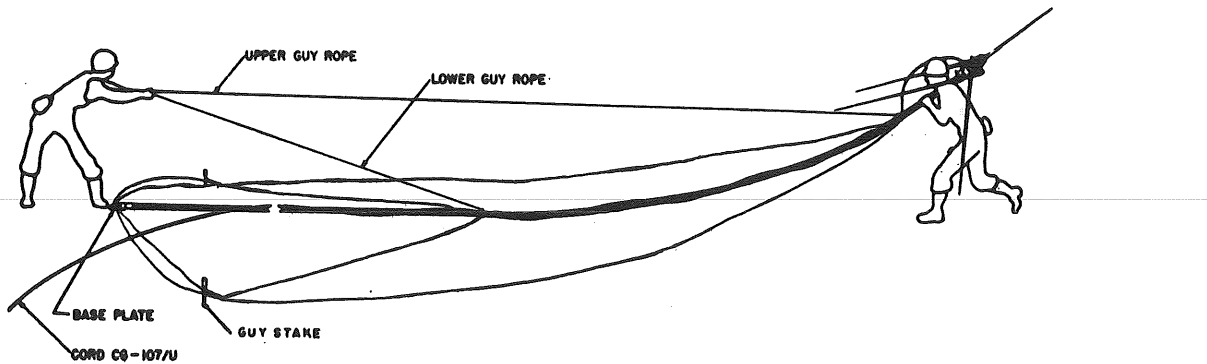

Figure 9. Erecting antenna with assistance.
- (1) Installer--near the swivel stake in line with the third guy stake, holding the free guys (fig 9).
(2) Assistant--at the top, holding the antenna base at shoulder height.